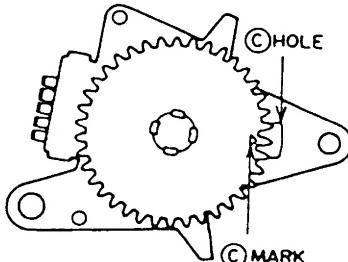

Fig. 3-14
1) Set the MODE SELECT SWITCH's gear so that the ⑨ mark is in the center of the ⑨ hole as shown in Fig. 3-14.